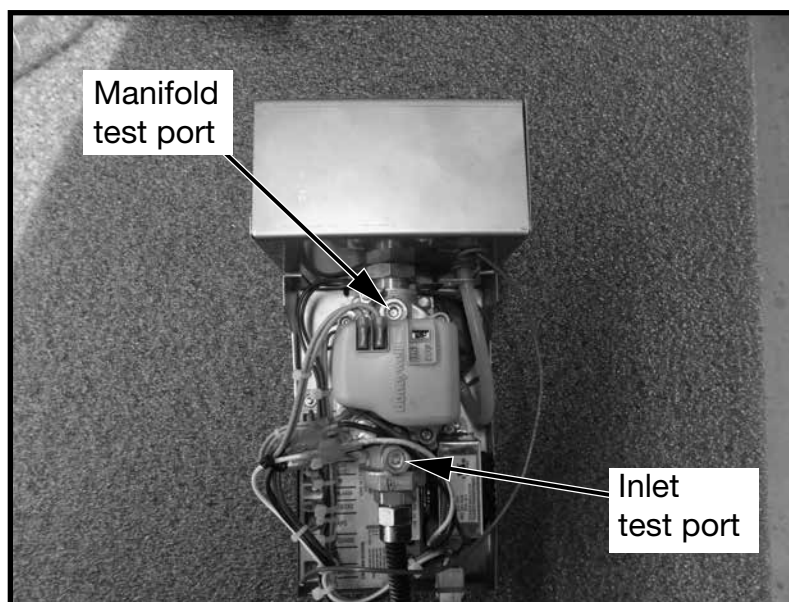
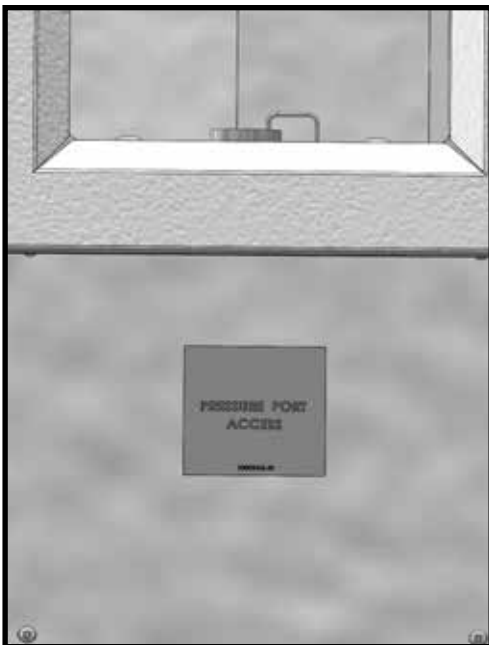

Figure 14: Gas valve testing ports.
Figure 15: Pressure test port location.
2. Locate the gas valve testing point located behind the “Pressure Port Access” label as shown in Figure 15. Behind the label is a hole in which a brass testing extension can be inserted (Figure 14). After locating manifold test port, loosen and remove the screw within the port using a 3/16 Allen wrench.